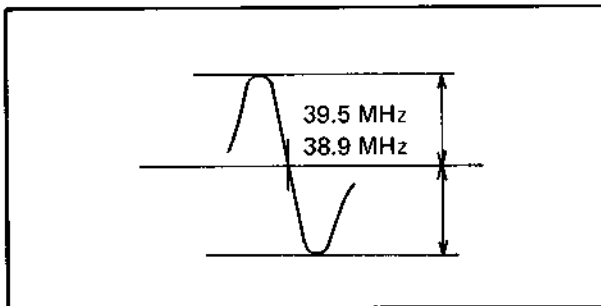

Fig. 6-55
6. Adjust the core of T401 so that waveform becomes symmetrical around its center as shown in Fig. 6-55.